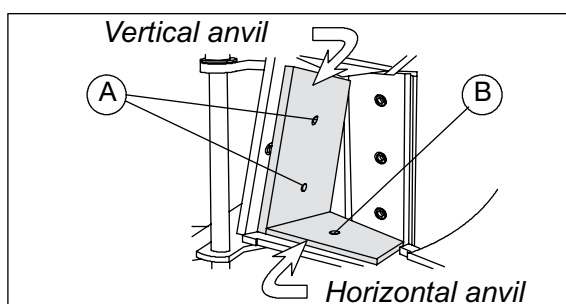

Fig. 23. Anvil fastening bolts
The chipper features both a vertical and horizontal anvil. To remove the anvils, open the fastening bolts (A) and (B) (M16). The horizontal anvil fastening bolt (B) is located below the feed opening. Fig. 23.
1. Loosen the anvil fastening bolts (A) and (B) (M16). Fig. 23.